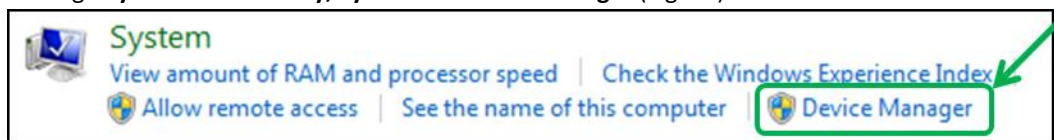

Fig. 19 System window.
- Navigate through **System and security, System** to **Device manager** (Fig. 19)